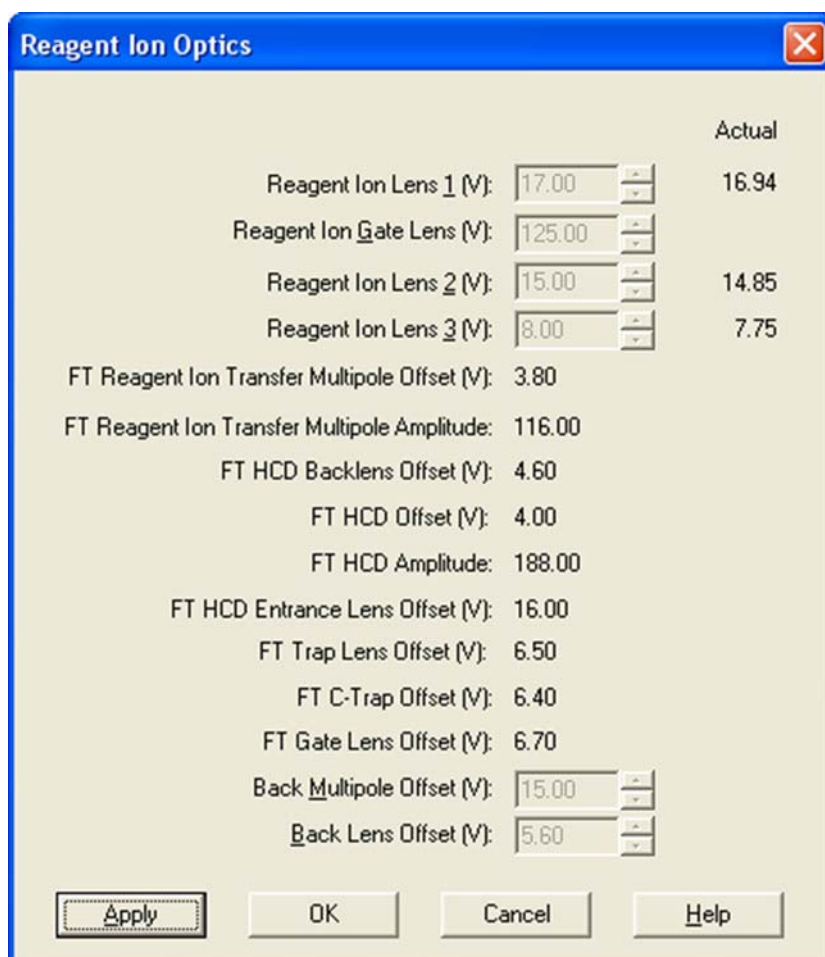

Figure 7-17. Reagent Ion Optics dialog box
1. Click the **Reagent Ion Optics** instrument control icon in the Tune Plus window to open the Reagent Ion Optics dialog box. The parameters in the Reagent Ion Optics dialog box have been optimized by the Auto Tune process. See Figure 7-17.